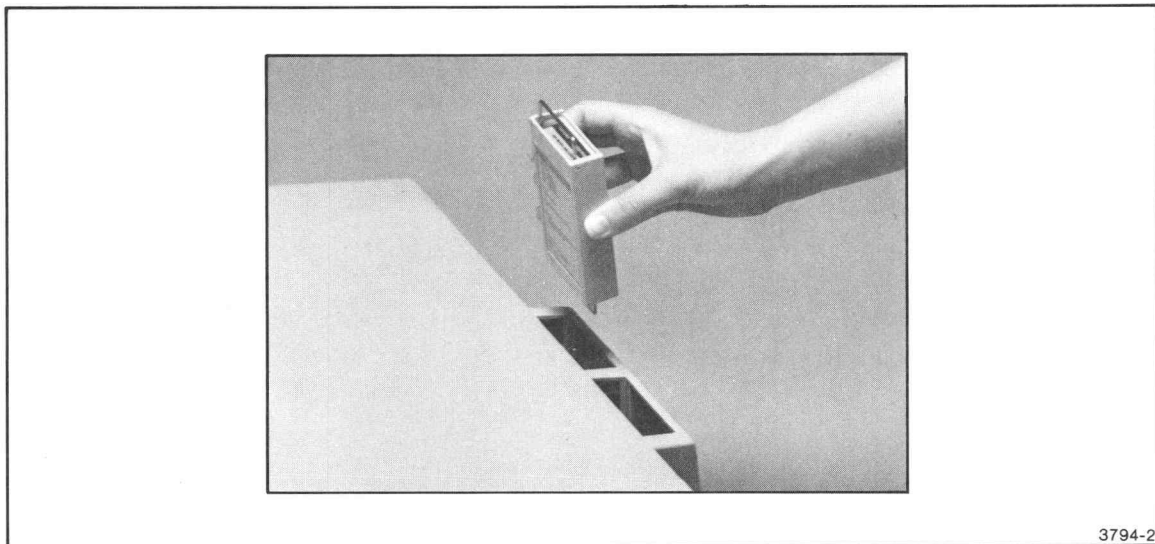

Figure 1-2. Installing the ROM Pack in the Graphic System.
2. Insert the Character and Symbol ROM Pack into one of the slots in the rear of the Graphic System as shown in Figure 1-2. Press down and gently rock the plastic case until the ROM pack edge-board connector is firmly seated in the receptacle.